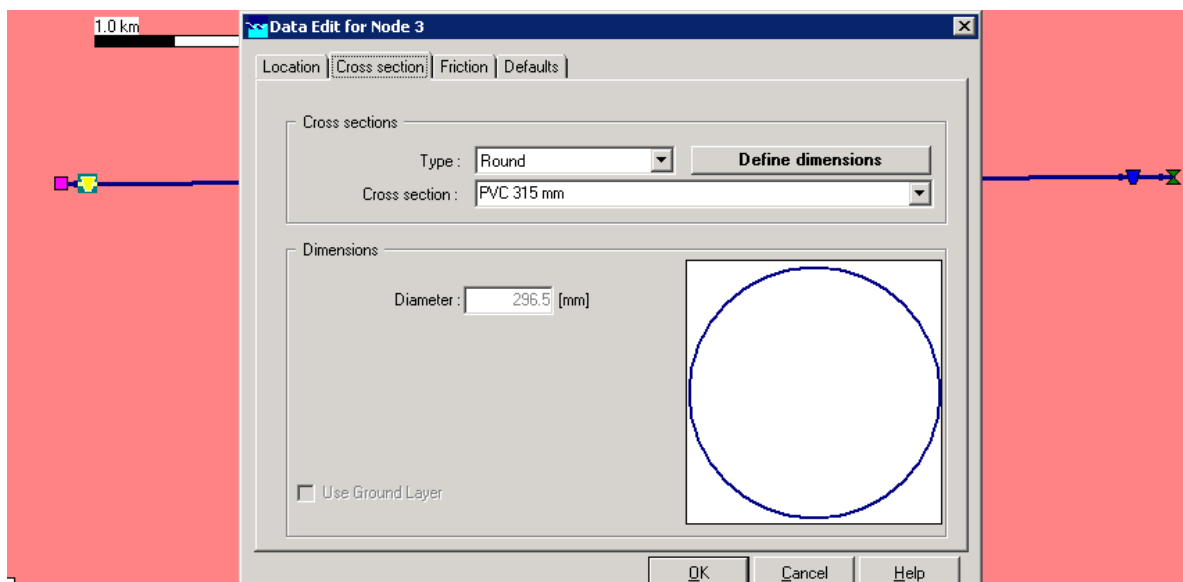

Figure 7
3. Add Cross sections nodes following the previous first step and adjust the properties of the pipe (diameter, upper and lower level, shepe, friction, location). **Important!:** the temperature model works only with circular pipes (Figure 7).